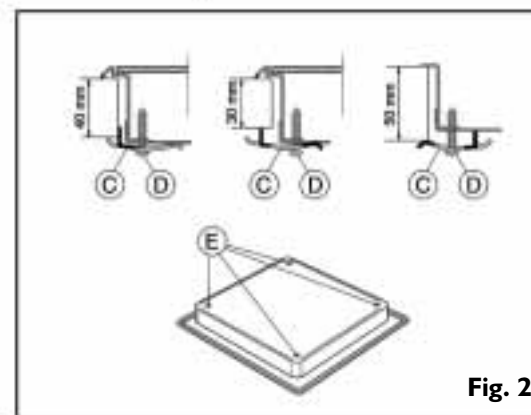

Fig. 2
Attention: to install the hob on other surfaces than wood (marble, plastic, ceramic, marble, stone, etc.) remember to ask After Sales Service for the fixing plates (fig. 2) Code 4819 404 78697.
- **If the worktop is made of marble, plastic, ceramic, stone, etc.**, the hob must be secured with special brackets **(C)** (fig. 2).
2. Place the 4 brackets **(C)** in position in accordance with the thickness of the worktop as shown in fig. 2.
3. Fasten the 4 screws **(D)** in the positions **(E)** (fig. 2).